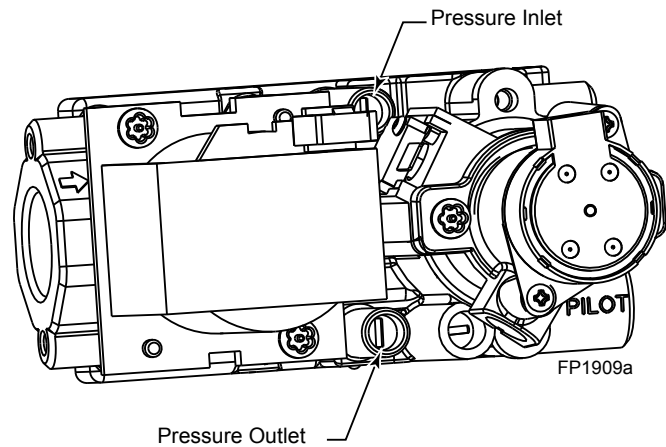

Figure 46 -
3. To check gas pressures at valve, turn captured screw counter clockwise 2 or 3 turns and then place tubing to pressure gauge over test point. Turn unit to high. *Figure 46.* After taking pressure reading, be sure and turn captured screw clockwise firmly to reseal. Do not over torque. Check test points for gas leaks.